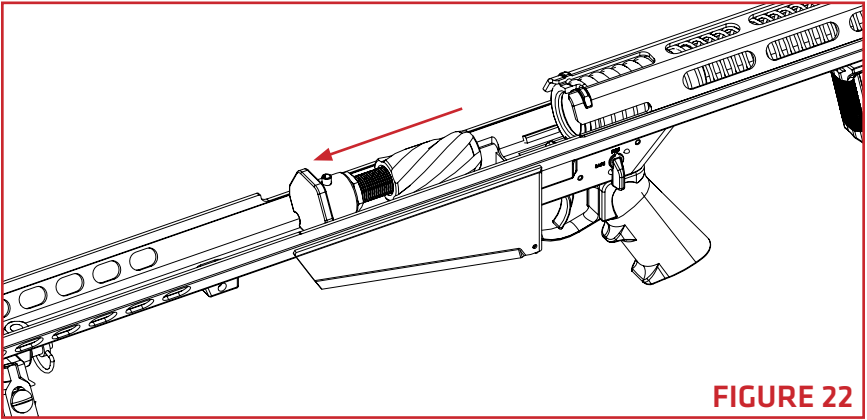

FIGURE 22
1. Remove hydraulic buffer to expose buffer sleeve (**FIGURE 22**).